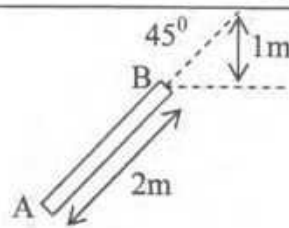

Figure 5
- 4 a. Calculate the total pressure and the depth of the center of pressure on the inclined gate AB shown in Figure 5, the width of the gate perpendicular to the plane of paper is one metre.